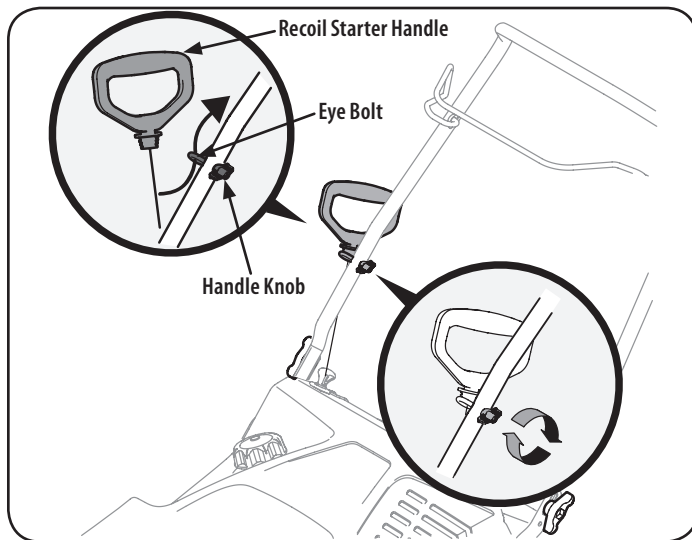

Figure 6
2. Place the eye bolt and handle knob on the upper handle as shown in Figure 6. Do not fully tighten the hardware until instructed to do so.
4. Slip the recoil starter rope into the eye bolt from the back side of the snow thrower. See Figure 6.